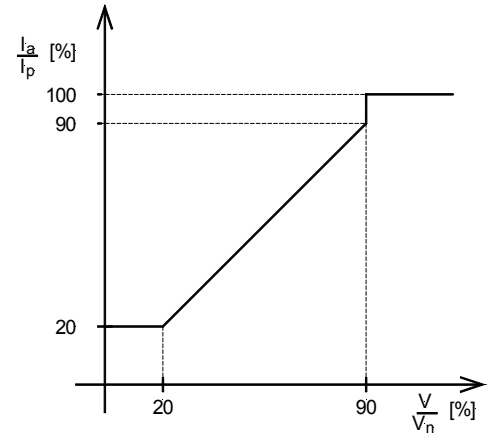

Figure 6-5: Characteristic of the inverse time-overcurrent monitoring with voltage restraint (knee curve setting 20 %)
**Function:** This function is recommended for a generator that must be monitored with droop excitation and precautions for short-circuit excitation (e.g. supplementary components) are not available. A short-circuit close to the terminal may be caused due to the low voltage excitation cannot be maintained. As a result, the unit cannot maintain power in order to initiate a voltage independent overcurrent delay. The voltage restraint functionality reduces the overcurrent threshold of the inverse time overcurrent monitoring function proportionally with the monitored voltage if this function is enabled. If the monitored voltage falls below the threshold defined by the knee curve setting (Parameter 146), the overcurrent threshold remains at the value of the knee curve setting. The reduction of the inverse time threshold occurs according to Figure 6-5.